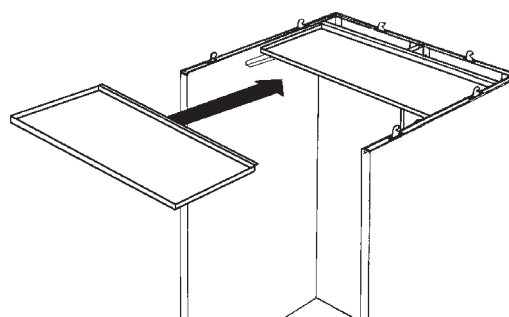

Fig. 6 Inside roof / Drip plate
15. Push in the inside roof/drip plate on the guides on the walls and air ducts (Fig. 6).